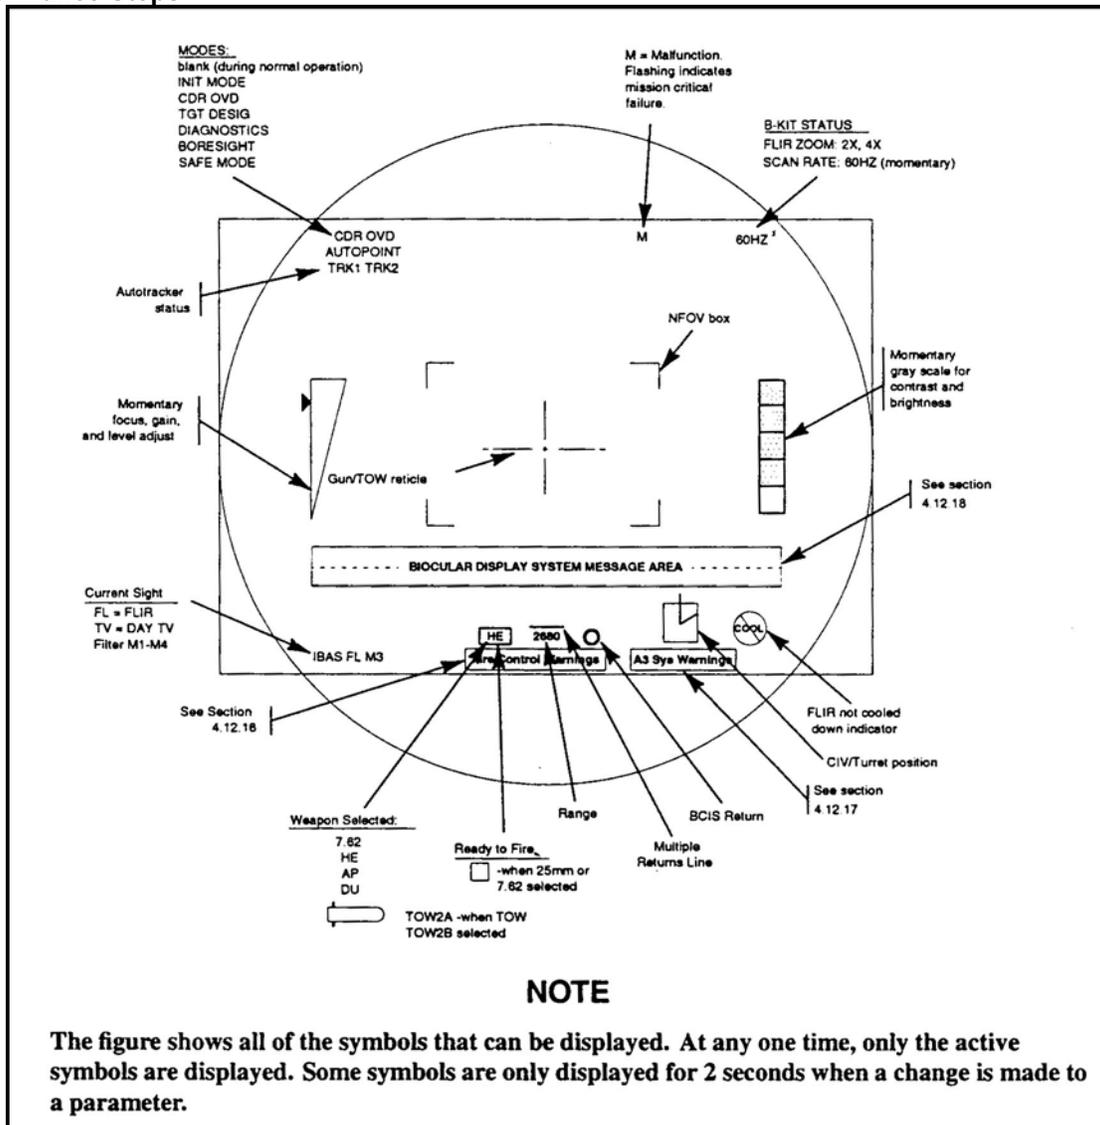

Figure 13. IBAS symbology.
- (1) Select 25mm gun.
- (a) Move the ammo type switch up for armor piercing (AP).
- (c) Observe the sight for the weapon selected symbology (AP or DU) (Figure 13).